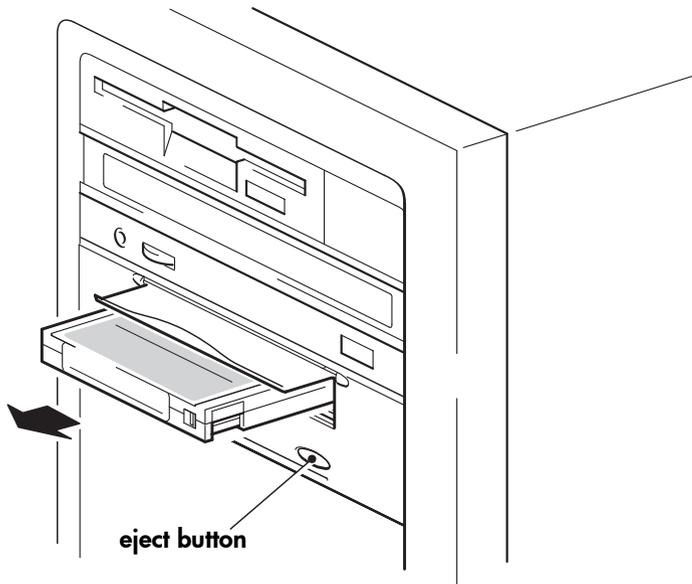

Figure 10b: unloading a cartridge
- 1 Press the Eject button on the front panel. (See figure 10b.)